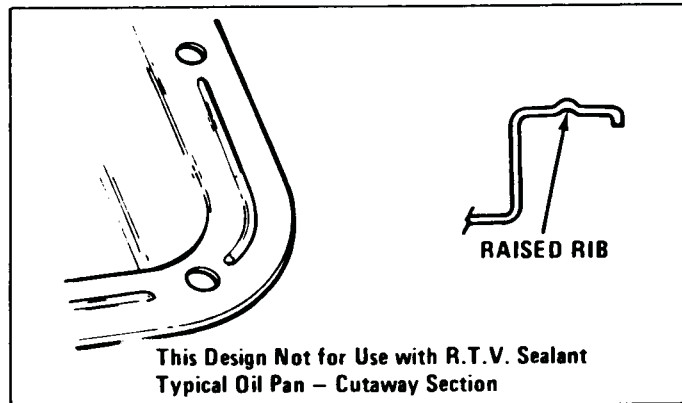
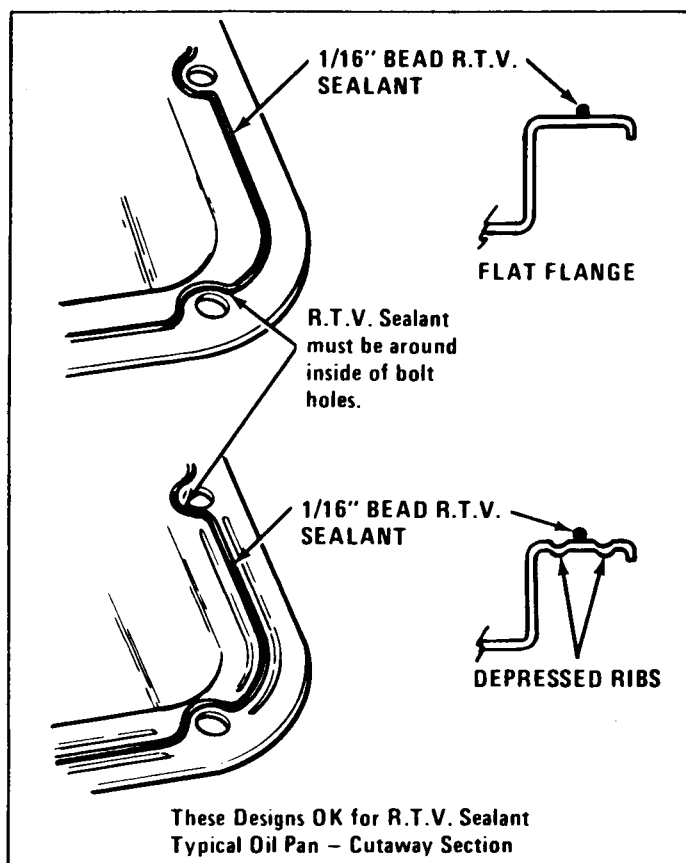

Figure 10
Figure 11
In early May, 1981, some THM 125 transaxles were built with R.T.V. Silicone sealant on the valve body cover and bottom oil pan in place of the cork gaskets. The flange on both the valve body cover and the oil pan were redesigned to eliminate the stiffening rib (Figure 10), making the flange face flat (Figure 11).
Oil pans with raised stiffening ribs on the flange as in Figure 10, must not be assembled with R.T.V. sealant.
R.T.V. Silicone sealant should be used on oil pans that have a flat flange or a flange with depressed stiffening ribs. However, use of R.T.V. sealant on the side cover should be restricted to the flat flange pan design (Figure 11).